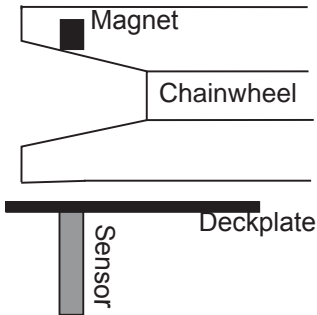

Fig 2
**Magnet Fit:** Some windlasses are predrilled and others need a special fit. Please check with your supplier. The usual fit is as follows: Drill a hole 10.3mm (13/32") diameter and 9.5mm (3/8") deep into a spoke in the top of the chainwheel. Cover the magnet with a minimum of 1mm epoxy. The magnet and sensor must be aligned so that the anchor rode passes between them. (See Figs 2 & 3).